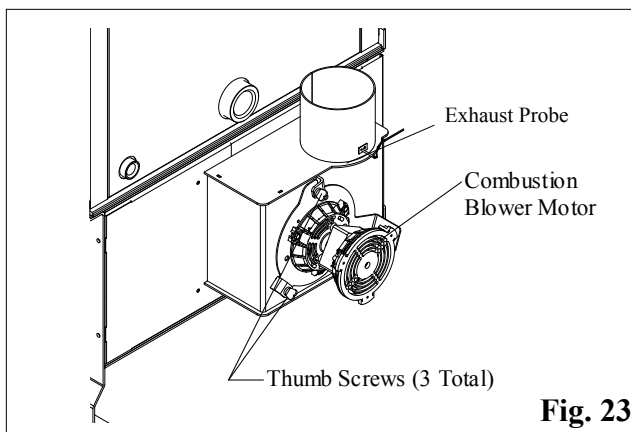

Fig. 23
Loosen the three (3) thumb screws about 4 turns each. See Fig. 23. Hold the motor head with one hand and the blower plate handle with the other hand. Pull outward on the plate handle until the complete unit comes loose. Now rotate the plate counter-clockwise about 1/8 turn. This will allow the complete assembly to be removed from the blower chamber.
NOTE: The exhaust probe sensing tip extends into this same area. **CARE MUST BE TAKEN NOT TO DAMAGE THE ESP DURING CLEANING.** Bending of the ESP will make it difficult to remove if it should become necessary. See Fig. 23.